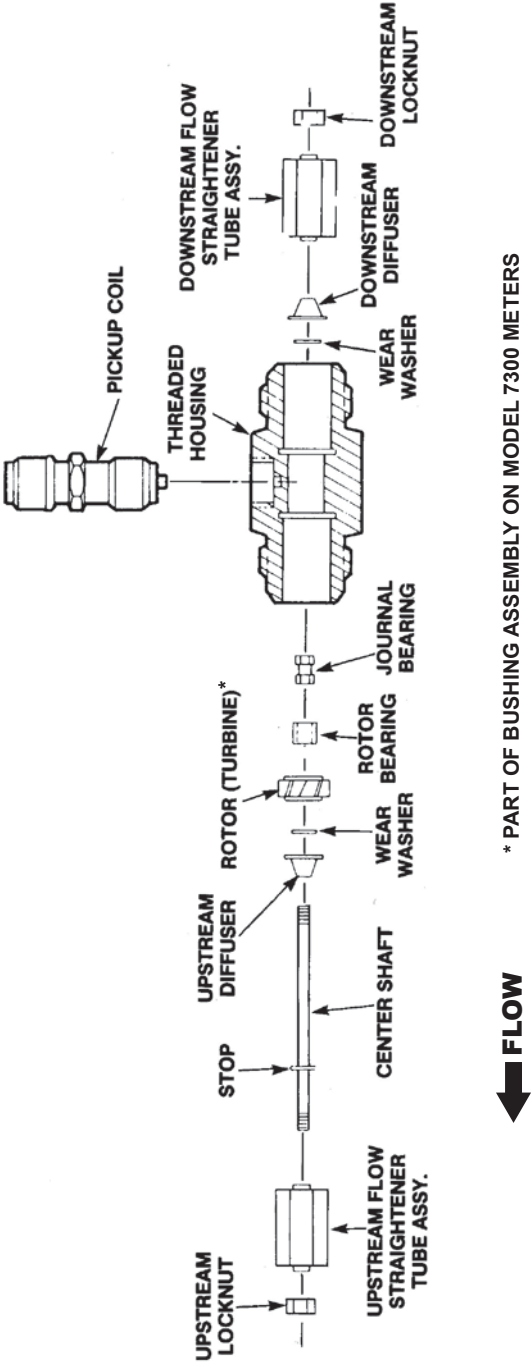

Figure 3.3—Model 7100 and Model 7300 meter disassembly/assembly sequence
1. Remove downstream locknut (see Figure 3.3, page 23).